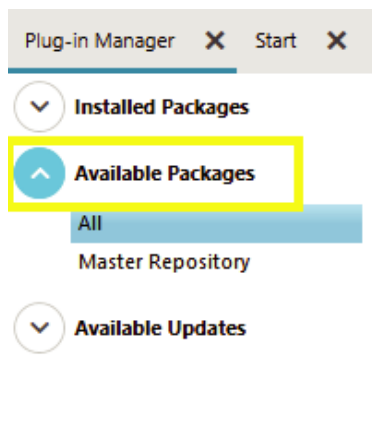

Figure 3. Plug-in Manager Option in the Sidebar
2. Run the **ACE Software**, select the **Plug-in Manager** from the ACE sidebar to install the board plug-in that supports the AD4857 evaluation board, and select **Available Packages**, as shown in Figure 3. You can use the search field to help filter the list of boards to find the AD4857 board. See the ACE Quickstart - Using ACE and Installing Plug-ins guide for additional information.